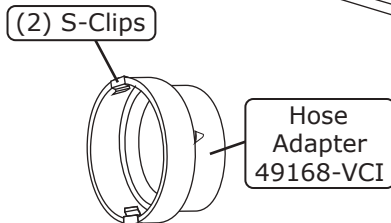

Figure 1a
1. Install (2) S-clips onto driver- and passenger-side defrost duct hose adapters (See Figure 1a, below).